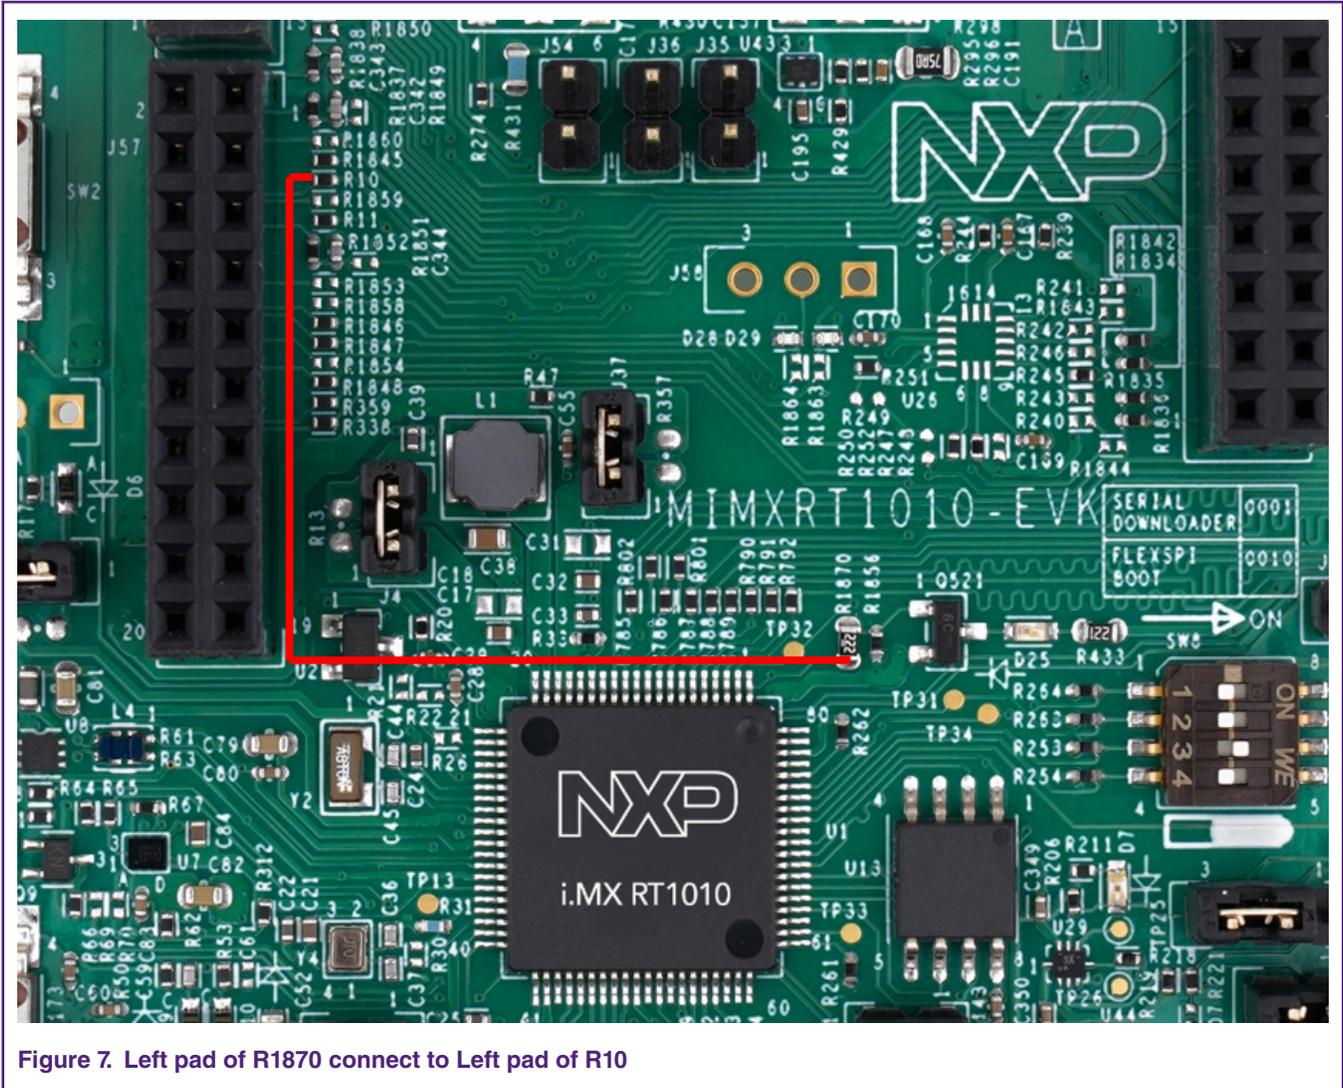

Figure 7. Left pad of R1870 connect to Left pad of R10
- pad of R1870 connect to Left pad of R10 Figure 7